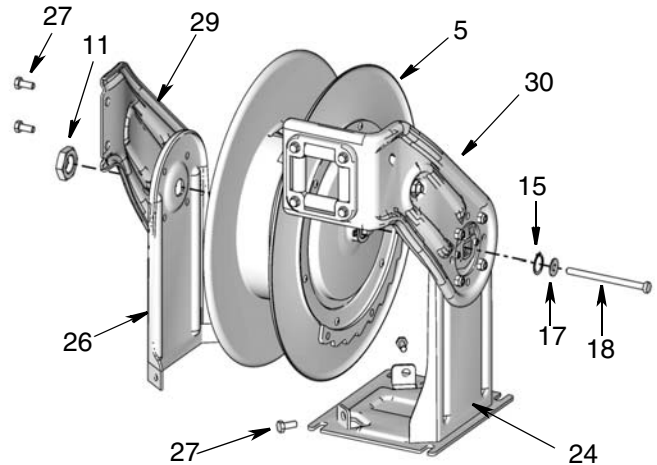
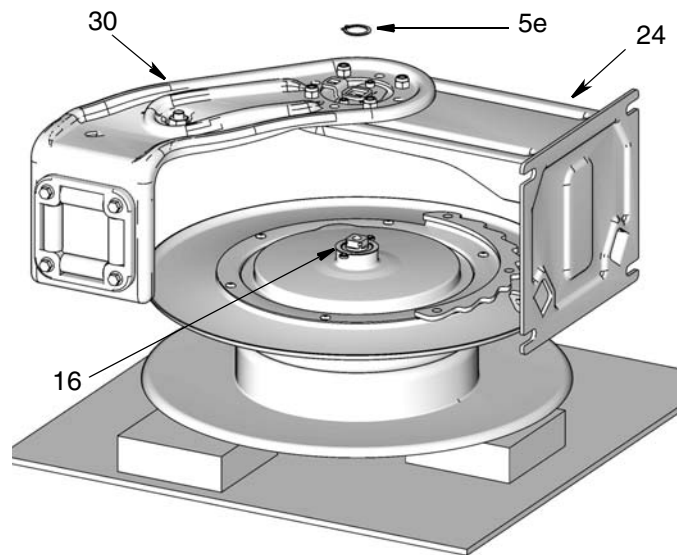

FIG. 16
FIG. 17
5. Remove large nut (11) (FIG. 16).
6. Remove two screws (27) holding pedestal (26) to base (24) and two screws (27) holding guide arm (29) to guide arm (30) (FIG. 16).
7. Completely remove guide arm and pedestal assembly (26 / 29) and set it aside to reinstall on the new spool (FIG. 16). These parts do not have to be disassembled.
8. Lay hose reel on its side so you can easily access the guide arm and pedestal (24 / 30). Remove long bolt (18) and washers (15 / 17) (FIG. 16 and FIG. 17).
9. Remove snap ring (5e) (FIG. 17).
12. Place new spool (5) on its side on a work bench. Make sure the flat side of the spool faces down on the table and the ratchet side is facing up, as shown in FIG. 17.
NOTE: It is easier to reattached the guide arm and pedestal assembly to the spool if the spool is supported and somewhat level. Placing a couple blocks of 1" thick scrap wood under the spool as shown in FIG. 17 (page 21) will help support the spool during the arm installation.
19. Install large nut (11) (FIG. 16, page 21). Tighten and torque nut to 85-105 ft. lbs (378 - 467 N.m).
20. Tighten bolt (18).
21. Align guide arm (29) and guide arm (30). Install screws (27). Tighten and torque screws to 20-30 ft. lbs (89 - 133 N.m).
22. Align pedestal assembly (26) to base (24). Install 2 screws (27). Tighten and torque screws to 20-30 ft. lbs (89 - 133 N.m).